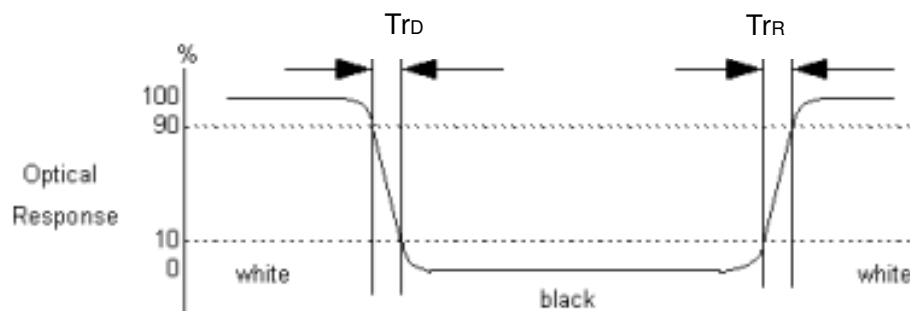

Fig.4-3 Response time
4. Response time is the time required for the display to transition from white(L255) to black(L0) (Decay Time, $T_f=T_{rD}$), and from black(L0) to white(L255) (Rise Time, $T_r=T_{rR}$). For additional information see Fig. 4-3.